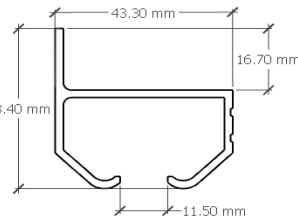

FIG.3
* Refer fig. 3 for track profile dimensions